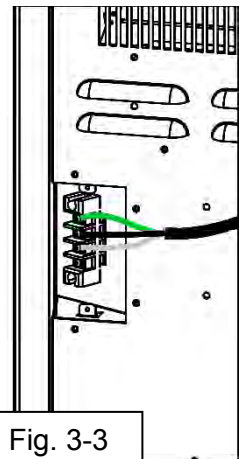

Fig. 3-3
- From the power supply wire, connect the green/bare copper wire to ground (**G**), the white wire to neutral (**N**), and the black wire to Line1 (**L1**) (Fig. 3-3 and 3-4).